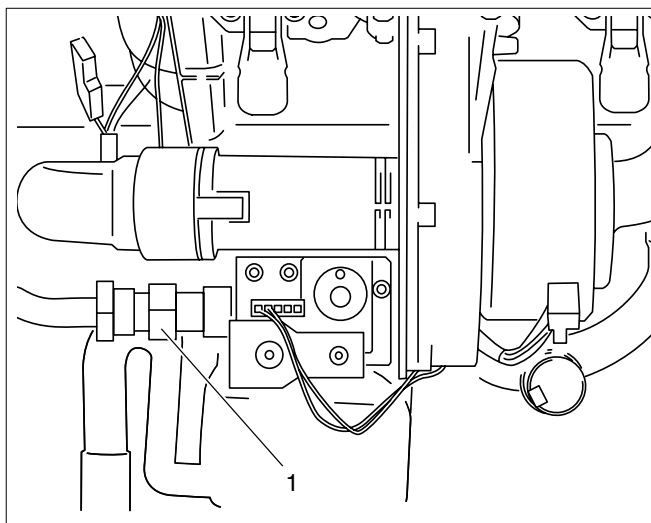

Fig. 107 Loosening the gas control valve
- Loosen the union nut of the gas control valve (see fig. 107, pos. 1).